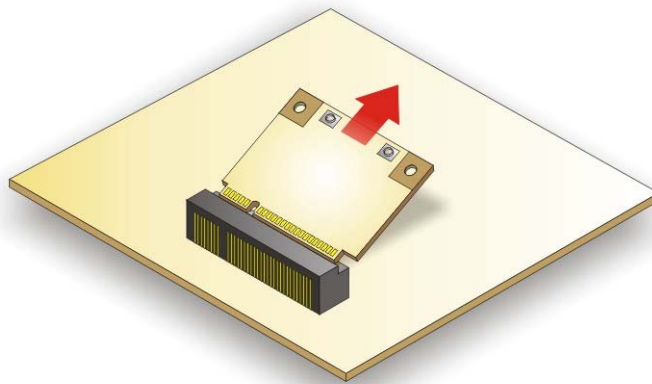

Figure 5-3: Removing the WLAN Module
Step 6: Grasp the WLAN module by the edges and carefully pull it out of the socket (**Figure 5-3**).